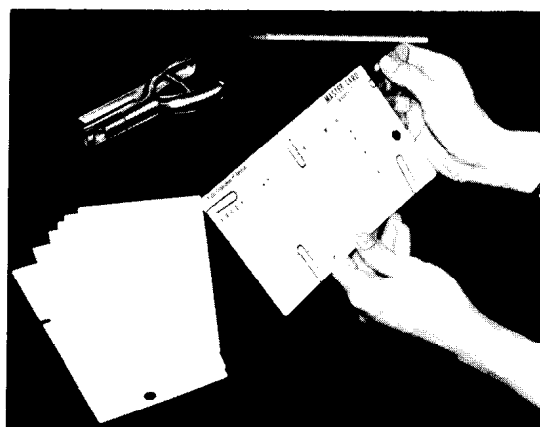

Figure 3. Line up index slots and bottoms of master card and blank card. Clip the two cards together.
2. Carefully line up the index slots and the bottom edges of the cards. Clip the two cards together with paper clips around the edges (see Figure 3).